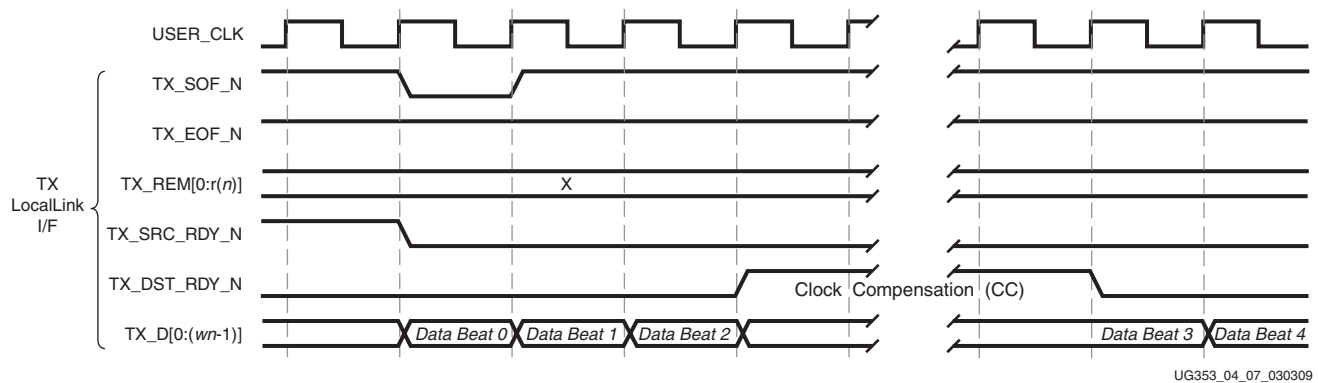

Figure 3-8: Data Transfer Paused by Clock Compensation
Figure 3-8 shows how the Aurora 8B/10B core pauses data transmission during the clock compensation(1) sequence.